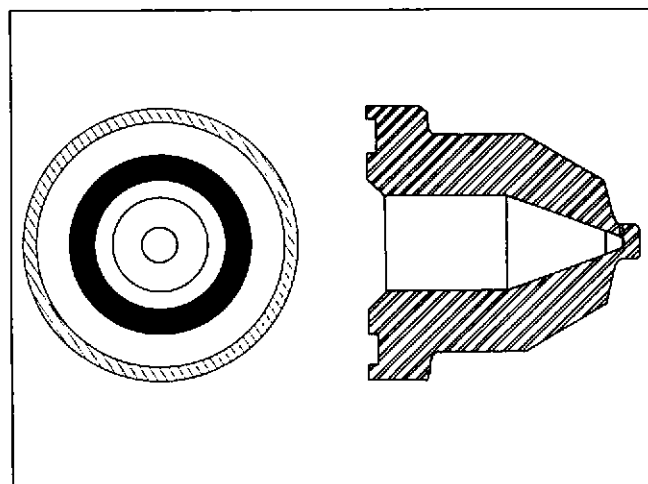

Fig. 2-27, (F60161). Cup surface at barrel contact surface
- a. For mutilation, check in the area (black area) as shown in Fig. 2-27.